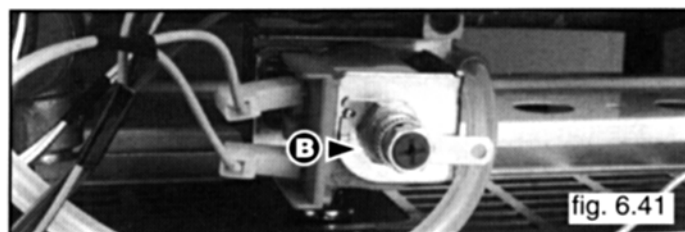

fig. 6.41
- 4 With a 14 mm spanner turn the cartridge "B" counter-clockwise (see fig. 6.41);